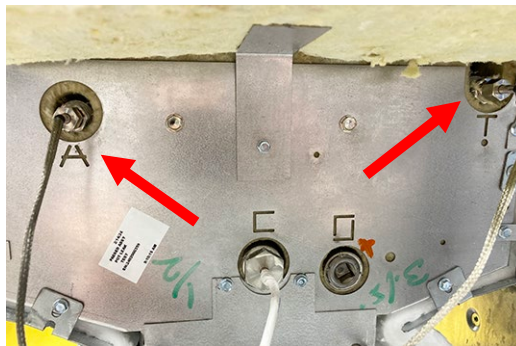

Figure 27
30. Remove the AIF probe (denoted by an "A") and the ATO probe (denoted by an "T") from the frypot (see Figure 27).